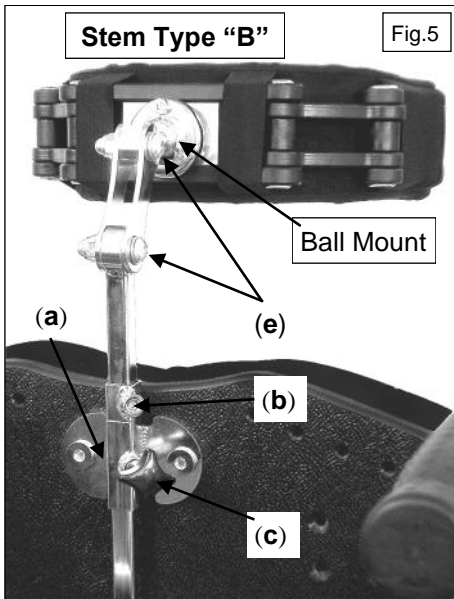

Fig.5
- Slacken both the black thumb-screw (c) on the Receiver and grub-screw (b) on the height pre-set collar Fig.5. This allows the whole assembly to be raised or lowered to the required height. After completing the adjustments, re-secure thumb-screw (c) sufficient to prevent any movement.
by slackening screws (e) Fig.5, set to the required depth and re-tighten screws, sufficient to prevent any movement.